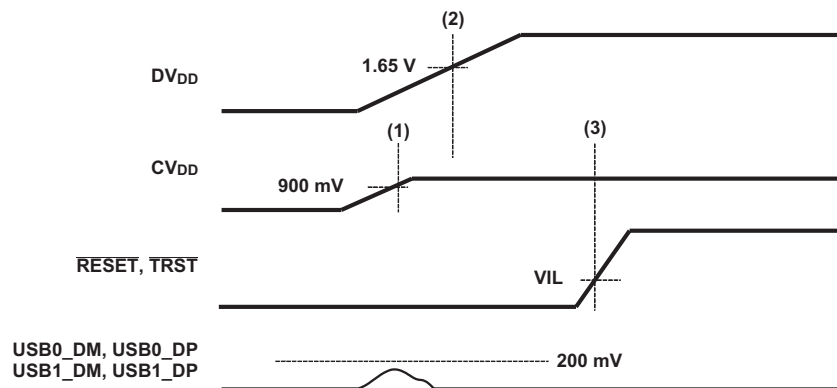

Figure 5-4. Power Sequence
However, if the on chip USB modules are used; then to limit any noise on the USB0\_DM, and USB0\_DP, USB1\_DM, and USB1\_DP pins to less than 200mV during the power on ramp, the sequence illustrated in Figure 5-4 must be followed. The requirement is that the core supply (CVDD) must ramp to at least 0.9V (1) before the IO supply (DVDD) reaches the 1.65V point in its ramp (2). And as is always the case,  $\overline{\text{RESET}}$  and  $\overline{\text{TRST}}$  must remain asserted during the power on ramp and released only after CVDD and DVDD are within their specified ranges.